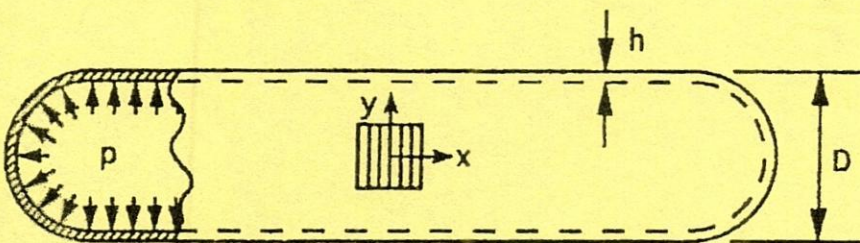

Figure 2
4. A cylindrical pressure vessel with hoop wound fibers (having diameter  $D = 100$  mm, thickness  $h = 5$  mm, made of unidirectional lamina) was loaded with internal pressure  $p = 20$  MPa as shown in the **Figure 2** and gave the following strain readings:  $\epsilon_x = 8 \times 10^{-3}$  and  $\epsilon_y = \epsilon_\theta = 2.75 \times 10^{-3}$ . Assuming  $\nu = 0.3$ , determine lamina moduli  $E_1$ ,  $E_2$  and  $G_{12}$ . 8 CO2